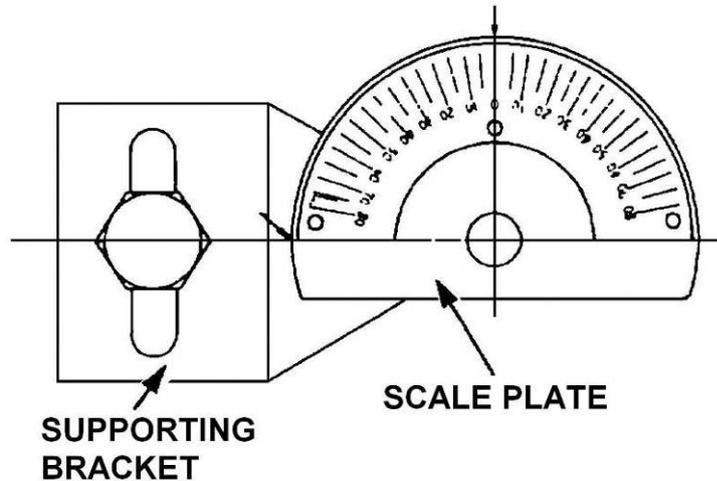

Figure 119 Aligning the Adjusting Device Match Marks
- c. Position special tool 105782-6170 (adjusting device) over the control lever, attach the adjusting device support bracket to the test stand and align the mark on the supporting bracket with one of the match marks on the scale plate (Figure 119).